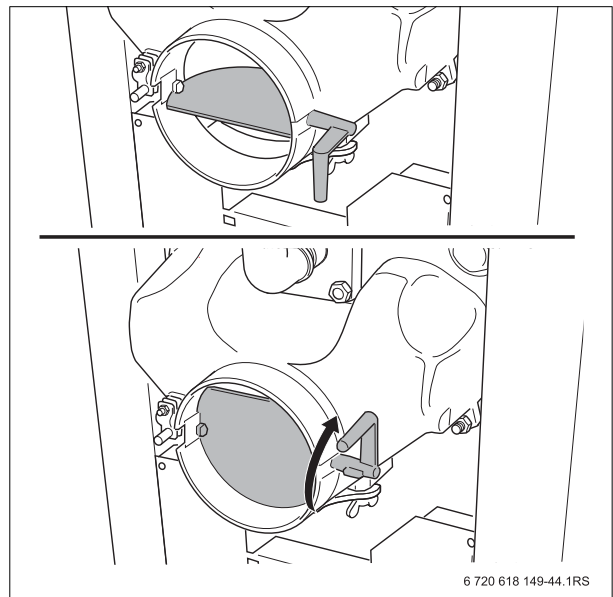

Fig. 37 Exhaust flap (top: open; bottom: closed)
- In order to reduce the smoke formation in the boiler room during re-filling, open the exhaust flap (→ Fig. 37 above).
- Close the fuel filler door [1] and exhaust flap (→ Fig. 37 below).